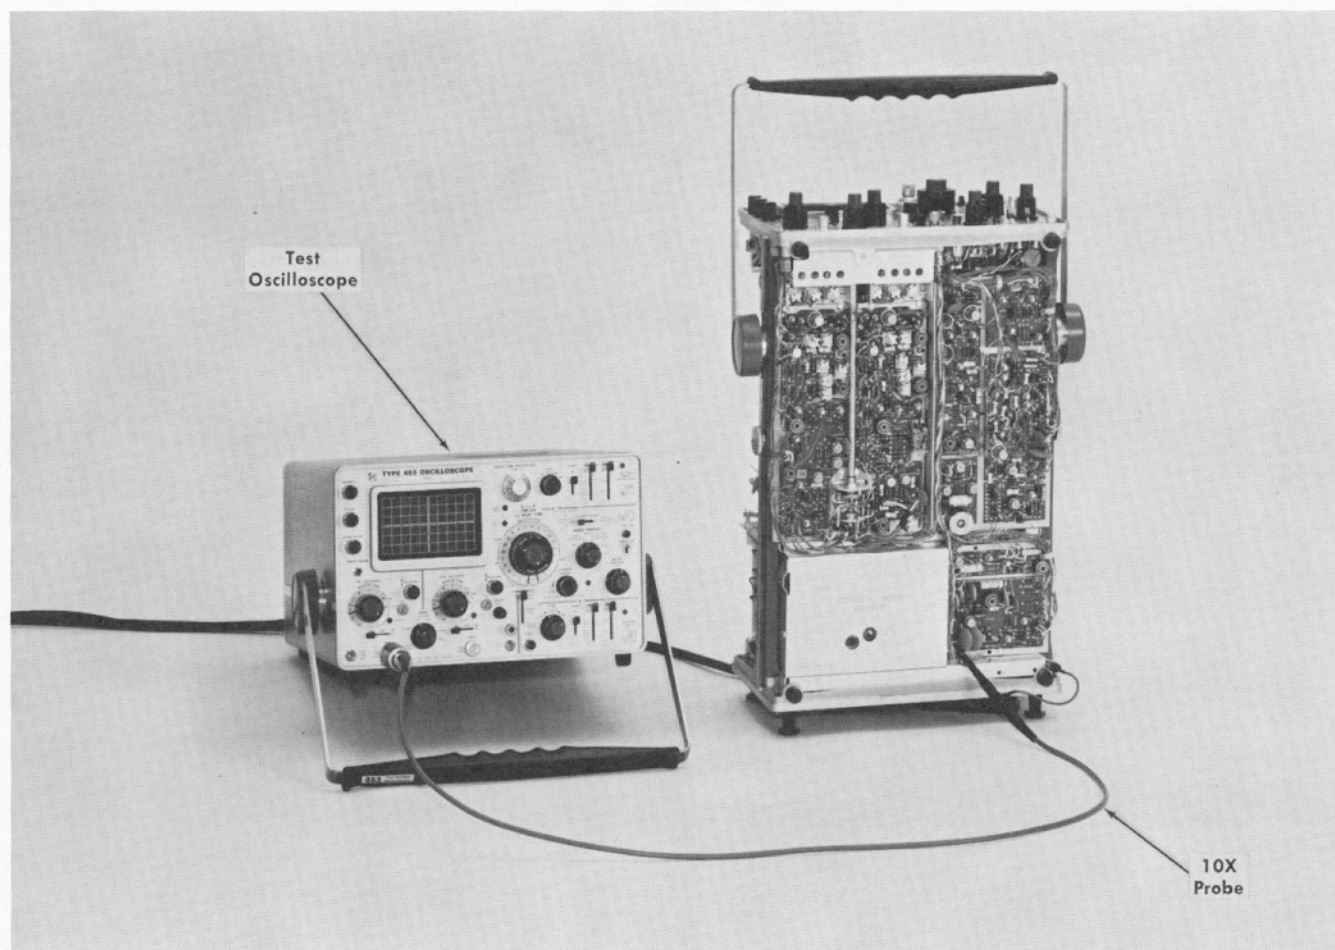

Fig. 6-11. Initial test equipment setup for steps 7 and 8.
7. Adjust Z Axis Compensation ①
- Test equipment setup is shown in Fig. 6-11.